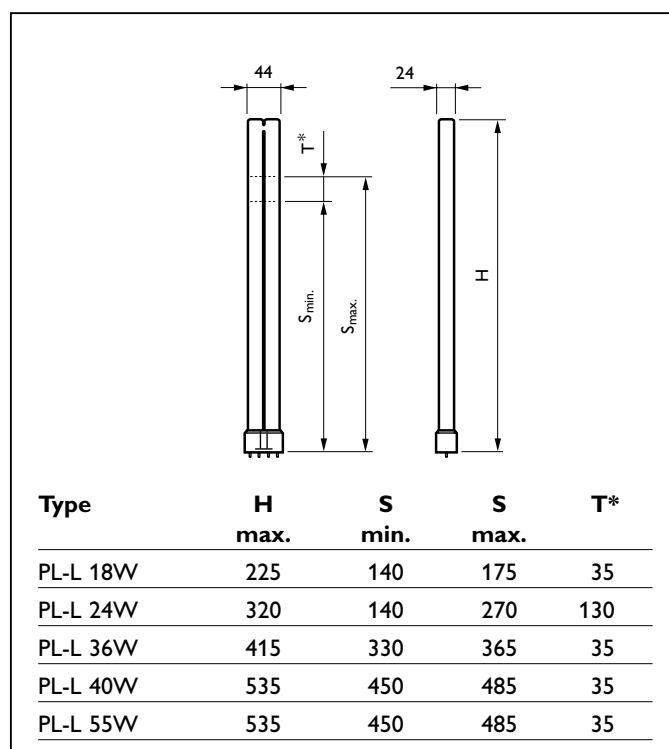

Figure 2.5: Maximum lamp outlines (in mm)
- MASTER PL-L lamps require lamp-end support. For mounting position see figure 2.5 including Remark.